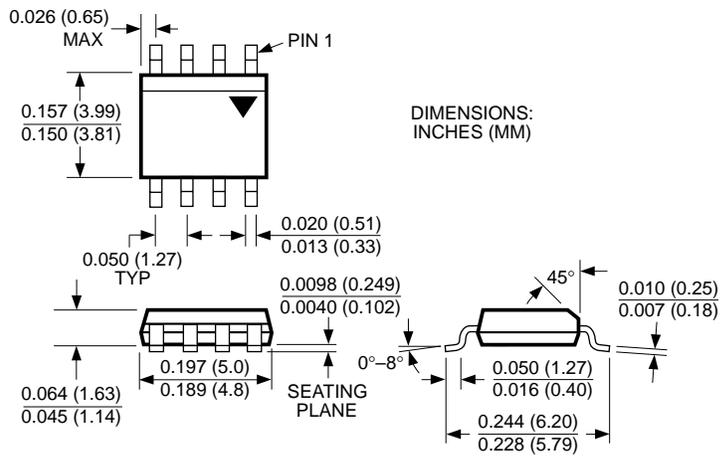

**Figure 13: Push-Pull Driver**
**Push-Pull Driver With No Cross-Conduction** (Figure 13) As the turn-off time of the MIC5014/15 devices is much faster than the turn-on time, a simple push-pull driver with no cross conduction can be made using one MIC5014 and one MIC5015. The same control signal is applied to both inputs; the MIC5014 turns on with the positive signal, and the MIC5015 turns on when it swings low. This scheme works with no additional components as the relative time difference between the rise and fall times of the MIC5014 is large. However, this does mean that there is